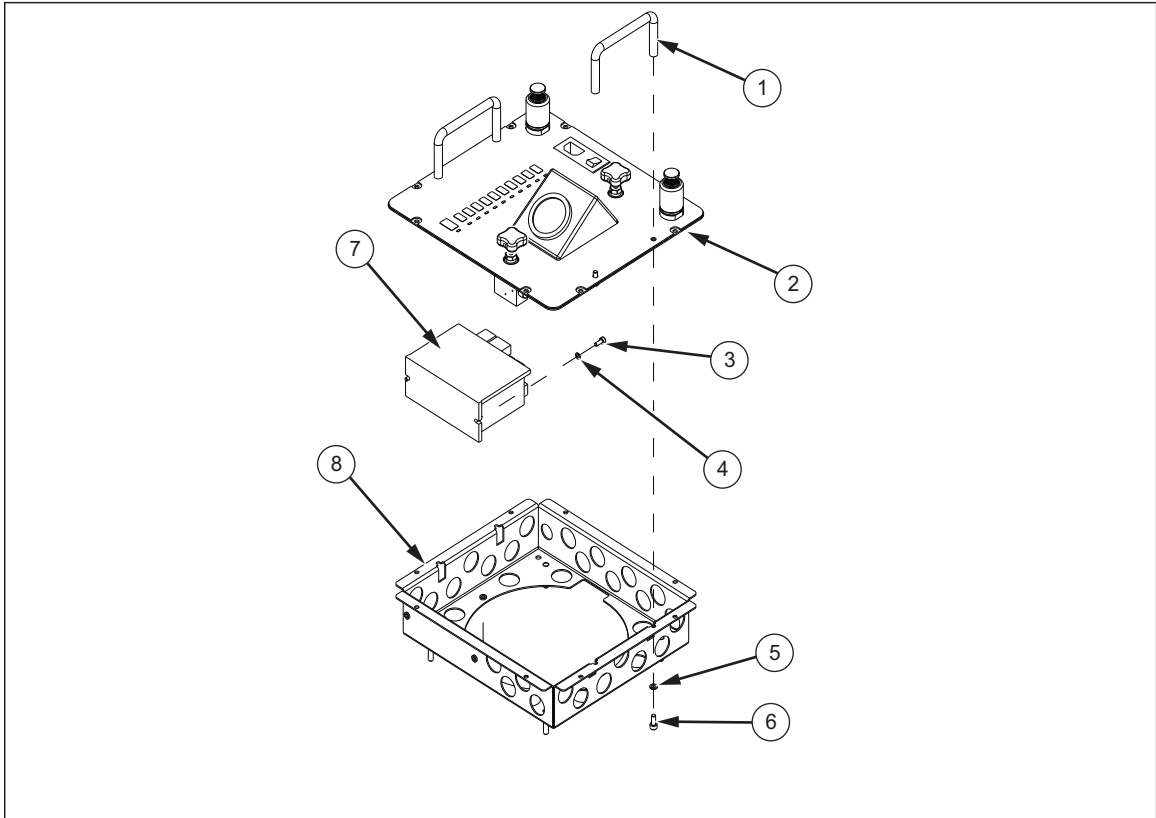

Figure 5-7. Motor Controller Replacement
Use the following instructions and Figure 5-7 to replace the motor controller (7).
*Depending on the previous level of disassembly the control panel assembly screws may not be fully removed as the spacers help captivate the screws. The screws must be fully removed to remove the support bracket (8). Hold the spacer tube to prevent it from spinning while removing the screws.*
3. Remove the four screws (6) that secures the support bracket (8) to the control panel assembly (2) and handles (1), and remove the grommets from between the panel and the handles.
4. Remove the support bracket (6): begin by partially lifting and sliding the bracket to clear the motor controller mounting flange away from under the stainless steel tubing. Then proceed to step 5.
*The motor controller (7) is attached to the support bracket (6).*
5. Disconnect the wires to the motor controller (7).
6. Remove the two screws (3) and lock washers (4) that secures the motor controller (7) to the support bracket (6).
Use the following instructions and Figures 5-7 and 5-13 to replace the pressure gauge (2).